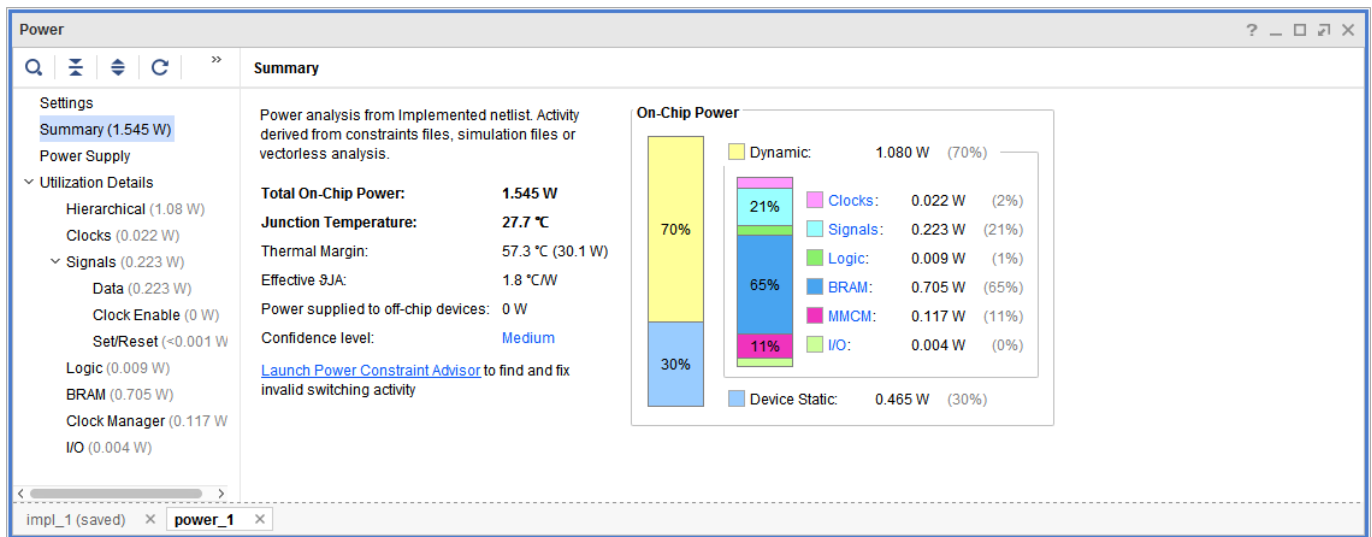

Figure 36: Running Post-Implementation Report Power in Vectorless Mode
3. Note the total power (**Total On-Chip Power**) in the power report **Summary** page (Figure 36).